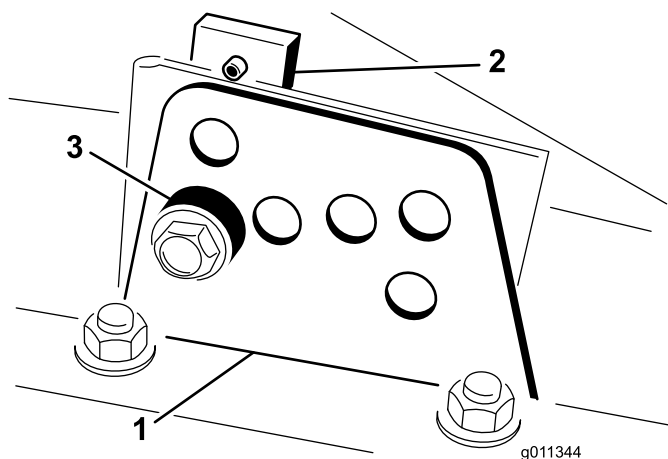

Figure 3
2. Loosen the bolt securing each height-of-cut bracket to the height-of-cut plate (front and each side) (Figure 3).
4. While supporting the chamber, remove the spacer (Figure 3).